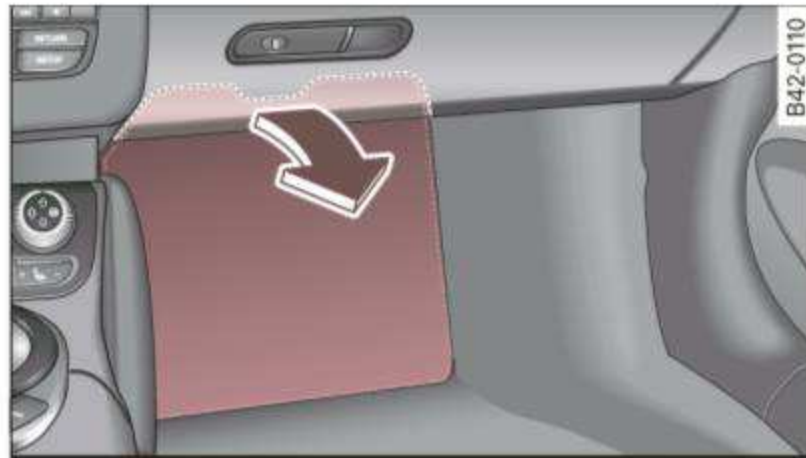

Fig. 138 Passenger's side wheel well: Foot rest with fuse arrangement
- Fold the foot rest back ⇒ fig. 138.